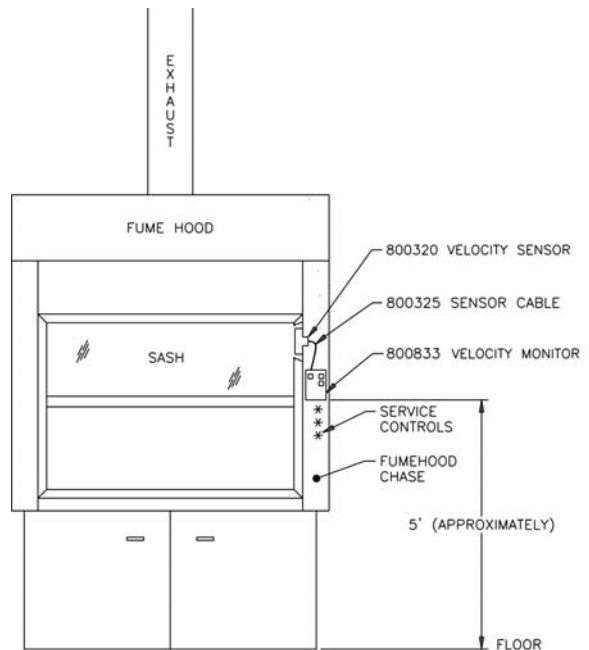

Figure 1: Typical Installation of EVERWATCH® Components
The purpose of these instructions is to guide the installer through the installation of the TSI EVERWATCH® Model 8612 Face Velocity Monitor. Please read these instructions thoroughly before beginning installation. The instructions begin with Figure 1 which shows a typical EVERWATCH® monitor installation, followed by a component list, and then some very important installation notes.
**WARNING:** The velocity sensor and velocity monitor mount on the same side of the fume hood (Figure 1).
1. Select the mounting location of the VELOCITY MONITOR. The monitor is typically mounted above the service controls (see Figure 1).